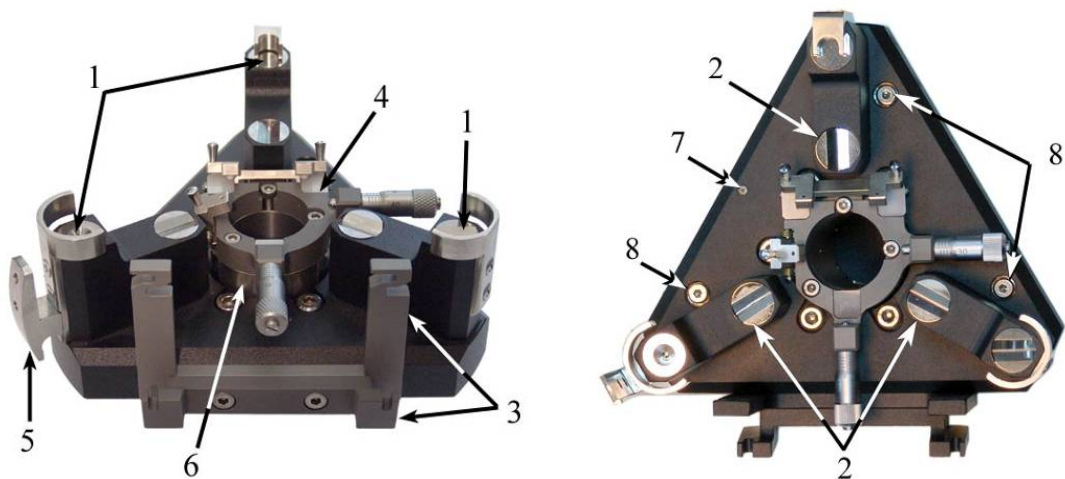

Fig. 2-4. Exchangeable mount
Basic parts of the exchangeable mount are shown in Fig. 2-4.
There are two types of sockets on the exchangeable mount (see pos. 1, 2 in Fig. 2-4). Depending on its type, a measuring head can be installed either into the slots 1 or into the slots 2.